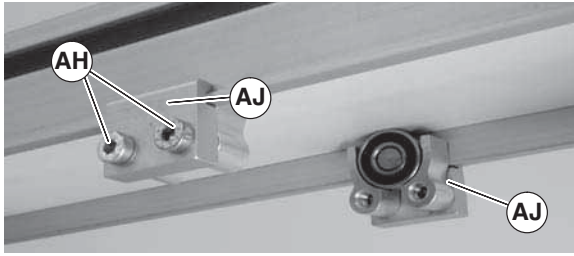
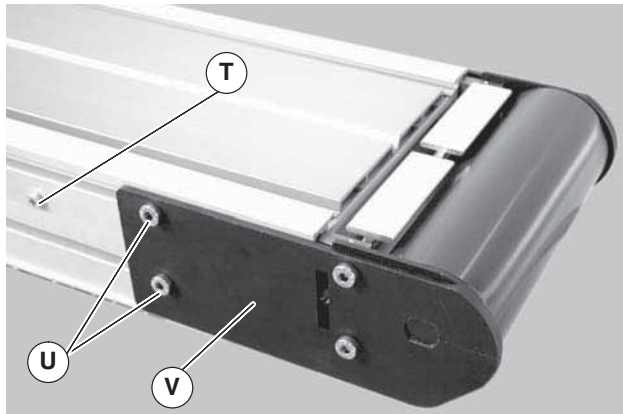

Figure 14
Figure 15
2. On tension end of the conveyor, identified by the pinion locking screw (Figure 14, item T), push in head plate assembly (V): Loosen the pinion locking screw (T), adjust the pinion torque screw (Figure 15, item W). On both sides of conveyor, loosen the two tail clamp bolts (Figure 14, item U), and push head plate assembly (V) inward.